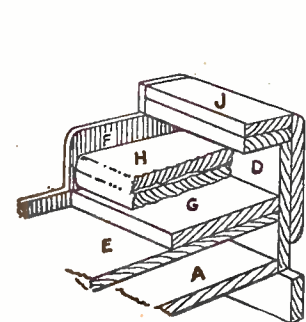
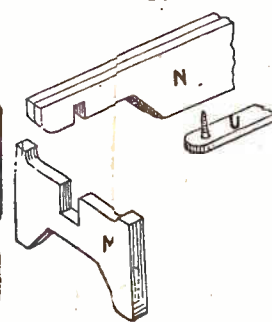
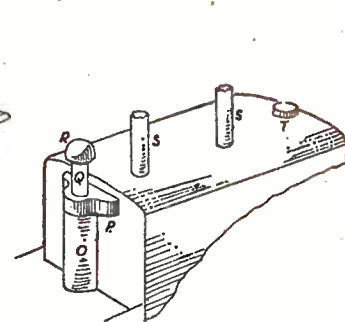
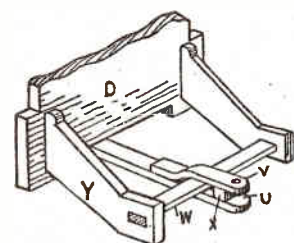

Fig. 2—Cut-away detail of seat and back
Fig. 4—The under chassis and its pivot screw
Fig. 5—Dash view of engine with top vents
Fig. 6—Rear portion with trailer bar
Note that part (H) is two pieces glued together, shaped to form the seat. The two pieces (J) are glued between the sides, but (I) is glued on edge in front of them on the seat itself. The back end of the body piece is (K). The top of the engine casing (L) is glued on flush with the back end which provides the rounded shape for the front. The whole front of the body is now rounded, as can be seen in the picture of the finished model. Shaping is done at top and bottom, as well as sides. The drawing at Fig. 2 is a useful guide in making up, and three shows finished parts.
(see Fig. 4). The completed body beds down into this chassis portion, and is there glued in place, the back end of (N) fitting to piece (D) which drops below the floor. The various pieces as additions to the top of the engine (O to T) are shown in Fig. 5 and also in Fig. 2. Cut and shape the parts carefully before gluing in place in the positions indicated. The parts (U to Y) are at the back end of the body, and are put together carefully (see Fig. 6). When this unit is completed, the upright pieces (Y) are glued to the back end of (D), as shown by the dotted lines on the pattern of that part.
The completed track portion is finally glued on to the ends of (M) (see Fig. 4), the exact position being noted from the side view on the pattern sheet. It may, however, be as well to paint the model as two complete units—before the tractor sides are glued on.